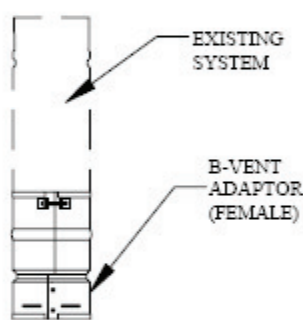

Fig 22
2. **Connecting into Existing Competitors System.** To connect into an existing competitors gas venting system from below, or from the appliance side, connect a **Female Adaptor** as shown in Figure 22, insuring that the inner liner of the adaptor is outside the inner liner of the existing pipe. Push the adaptor as far up as it will go, and tighten the locking bolt until the connection is snug.